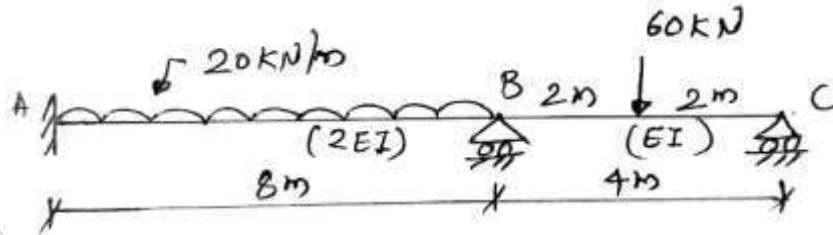

Fig.1
- Q.2 Analyse the continuous beam shown in fig.1 by slope deflection equation method & draw BMD 15
- Q.2 Analyze the continuous beam as shown in fig .1 using slope deflection equation if support B sink 15 by 10mm. Take $EI = 4000KN.m^2$. Draw BMD.